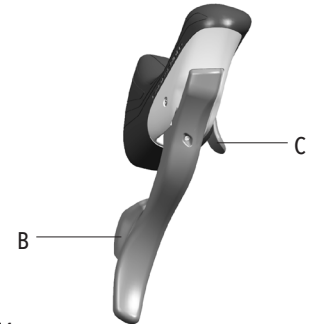

Fig.14
- Lever B (Fig. 14) on the right-hand control set operates the rear derailleur, lifting the chain onto the next highest sprocket.
- Lever C (Fig. 14) on the right-hand control set operates the rear derailleur, dropping the chain onto the next lowest sprocket.
- You can hold the right-hand control lever B or C (Fig. 14) down to change the rear derailleur up or down more than one sprocket.